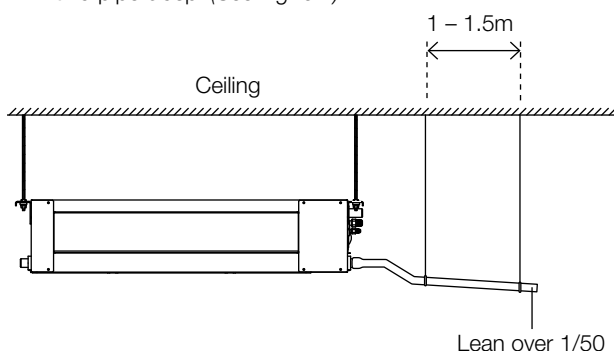

Fig. 6.2
2. Attach the mouth of the drain hose to the unit's outlet pipe. Sheath the mouth of the hose and clip it firmly with a pipe clasp. (See Fig. 6.2)